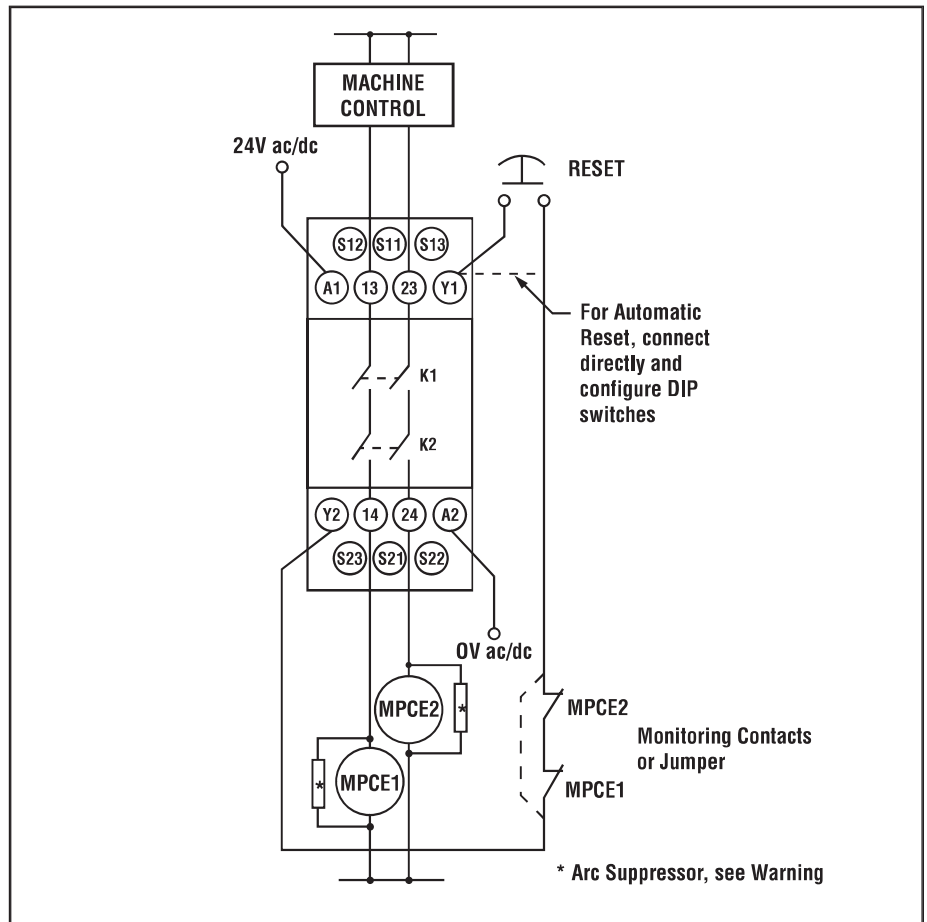

Figure 6. Hookup to the guarded machine
The reset input also can be used for an External Device Monitoring (EDM) circuit. The EDM circuit consists of a normally closed, force-guided contact from each device being controlled by the GM-FA-10J, all wired in series with the Reset button (if used) and terminated at terminals Y1 and Y2. See Figure 6 for further information.
The output of the Gate Monitor Safety Module consists of two redundant output switching channels, each of which is the series connection of two forced-guided relay contacts (K1 and K2 in Figure 6). Each of the switching outputs is rated for up to 250V ac at up to 6 amps.
The machine interface hookup diagram (Figure 6) shows a generic connection of the Gate Monitor Safety Module's two redundant output circuits to machine primary control elements MPCE1 and MPCE2. A machine primary control element is an electrically powered device, external to the Safety Module, which stops the guarded machinery by immediately removing electrical power to the machine and (when necessary) by applying braking to dangerous motion. The stop is accomplished by removing power to the actuator coil of either MPCE.
To satisfy the Safety Category 4 requirements of ISO 13849 (EN 954-1), each MPCE must offer a normally closed, forced-guided monitor contact. One normally closed monitor contact from each MPCE is wired in series to the Y1-Y2 feedback/reset input (see Figure 6). In operation, if one of the switching contacts of either MPCE fails in the shorted condition, the associated monitor contact will remain open, preventing the reset of the Gate Monitor Safety Module.
The Reset switch must be capable of reliably switching 15 to 30V dc at 5 to 50 mA. As shown in Figure 6, the Reset switch connects between terminals Y1 and Y2 of the Safety Module. The Reset switch must be located outside of – and not accessible from – the area of dangerous motion, and it must be positioned so the switch operator can see all areas of dangerous motion during the Reset procedure.
The Safety Module may be configured for Automatic Reset by setting switches S1.2 and S2.2 in Banks A and B to ON. If no MPCE contacts are monitored, a jumper must be installed between terminals Y1 and Y2 (see Figure 6). The Safety Module will reset (and its outputs will energize) as soon as the guards return to their closed position.
- 3) Apply input power (only) to the Gate Monitor Module at terminals A1 and A2 (see Figure 6). The following LEDs should come ON: